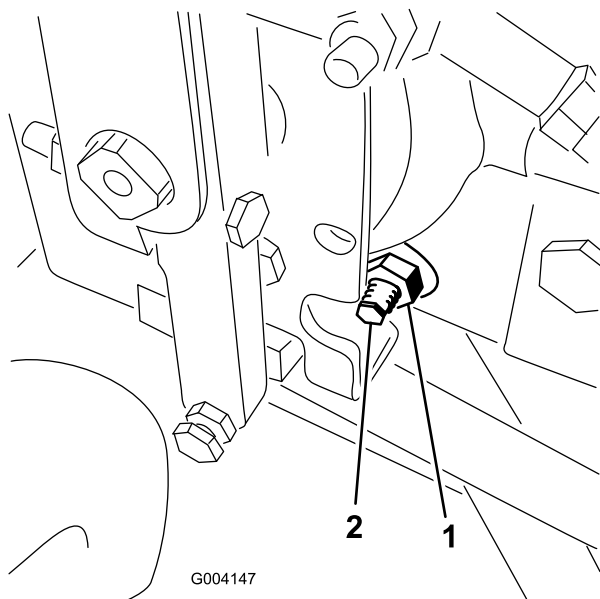

Figure 68
4. On the right side of the hydrostat, loosen the locknut on the traction adjustment cam (Figure 68).